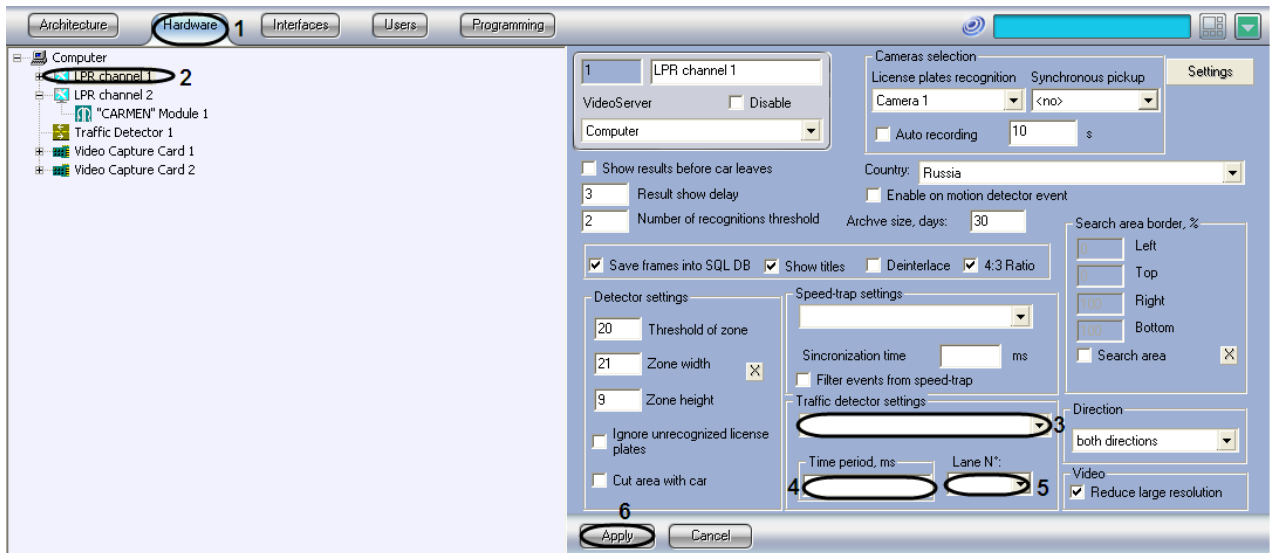

Fig. 7.2-20 Setting up the joint operation of the LPR channel and Traffic Detector modules
2. In the object tree on the left side of the Hardware tab, select the LPR channel, corresponding to the activated Auto-Uragan3.3.5.18, CARMEN-parking or CARMEN-Auto program module in the objects tree on the Hardware tab (see. «Program module activation, used for Plates identification»). The settings panel of the selected object will open on the right side of the window (Fig. 7.2-20).